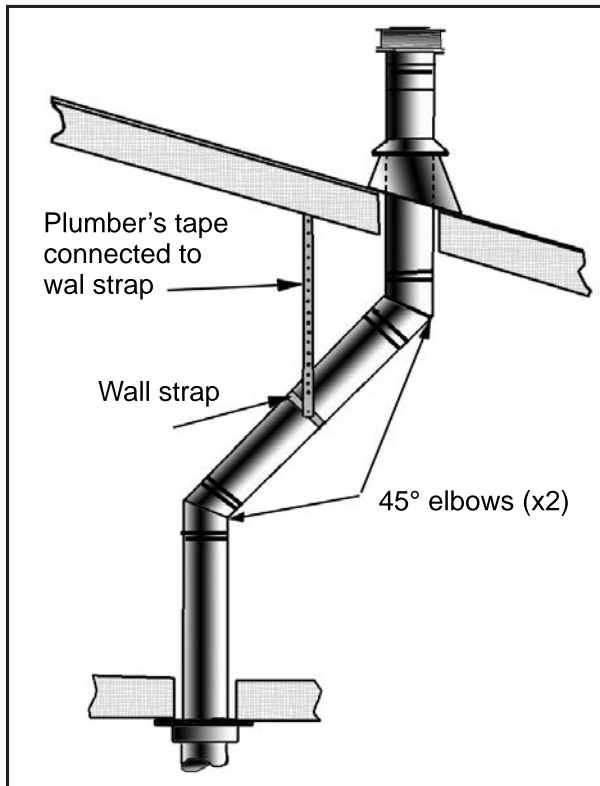
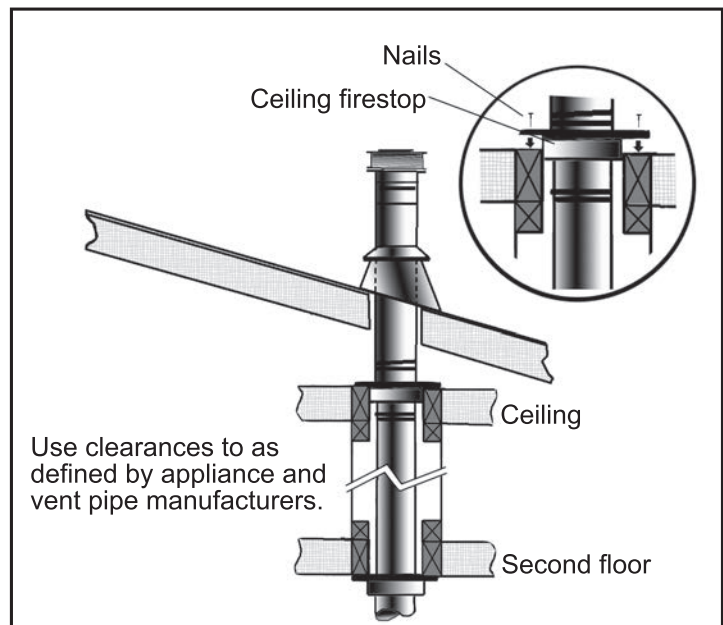

Figure 38: Use of Wall Straps.
Figure 39: Multi-Story Vent Pipe Installation
- (1) If an offset is necessary in the attic to avoid obstructions, it is important to support the vent pipe every **3' (914 mm)**, to avoid excessive stress on the elbows, and possible separation. Wall straps are available for this purpose (see Figure 38).
- (2) When ever possible, use 45° degree elbows instead of 90° degree elbows. The 45° degree elbow offers less restriction to the flow of flue gases and intake air.
- (3) For multi story installations; a ceiling firestop is required at the second floor, and any subsequent floors (see Figure 39). The opening should be framed to **10" (254 mm) x 10" (254 mm)** inside dimensions, in the same manner as shown in Figure 29.